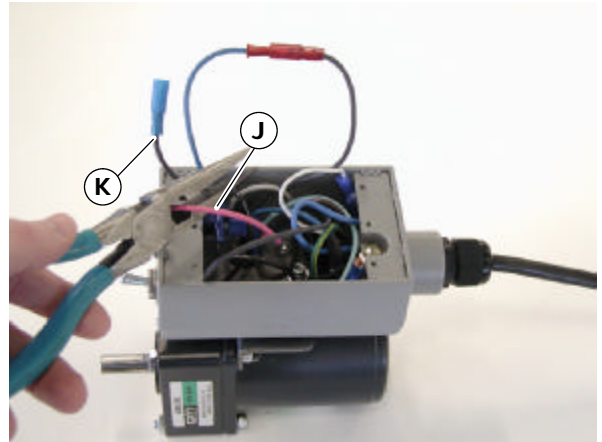

Figure 10
7. Cut red lead (J of Figure 10).